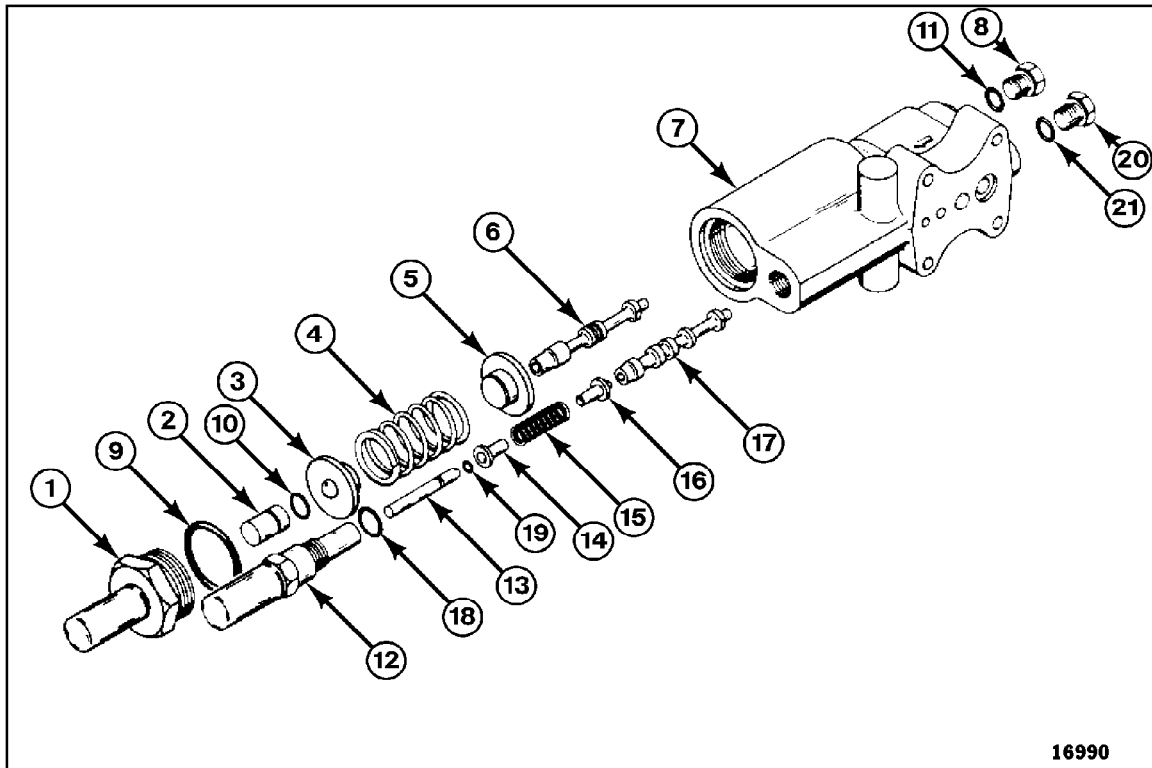

Figure 42
26. Install O-ring (21, Figure 42) on plug (8).
27. Install plug (20, Figure 42) in compensator housing (7). Tighten plug from 6 - 8 lbf ft (0.8 - 1.1 kg•m).
28. Install O-ring (19, Figure 42) on pressure rod (2).
29. Install O-ring (18, Figure 42) on flow adjustment cap (1).
30. Install pressure compensator spool (17, Figure 42), spring pivot cap (16), flow compensator spring (15), spring pivot cap (14), pressure rod (13), and flow adjustment cap (1) in compensator housing (7). Tighten flow adjustment cap from 10 - 12 lbf ft (1.4 - 1.7 kg•m).
31. Install O-ring (11, Figure 42) on plug (8).
32. Install plug (8, Figure 42) in compensator housing (7). Tighten plug from 6 - 8 lbf ft (0.8 - 1.1 kg•m).
33. Install O-ring (10, Figure 42) on pressure rod (2).
34. Install O-ring (9, Figure 42) on pressure adjustment cap (1).
35. Remove pressure compensator spool (6, Figure 42), spring pivot cap (5), pressure compensator spring (4), spring pivot cap (3), pressure rod (2), and pressure adjustment cap (1) in compensator housing (7). Tighten pressure adjustment cap from 60 - 70 lbf ft (8.3 - 9.7 kg•m).